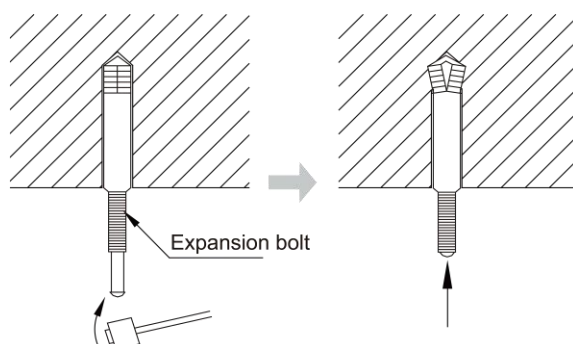

Fig 4.1.5
- (2) Insert the expansion bolt M10 into the hole and then drive the iron nail into the bolt, as shown in Fig 4.1.5.